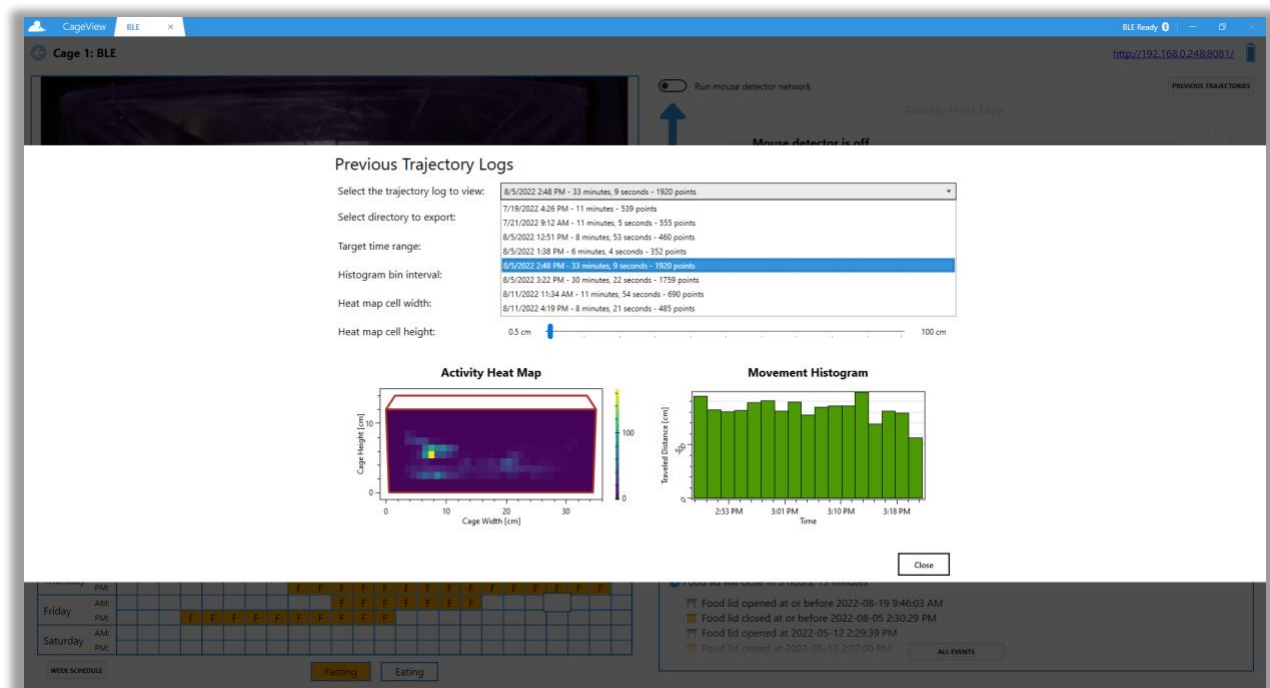

Figure 33. Selecting trajectory log to view
7.1.2. Select the desired trajectory log to view, as shown in **Figure 33**, and the user should see the recorded visual of the activity heat map and movement histogram.